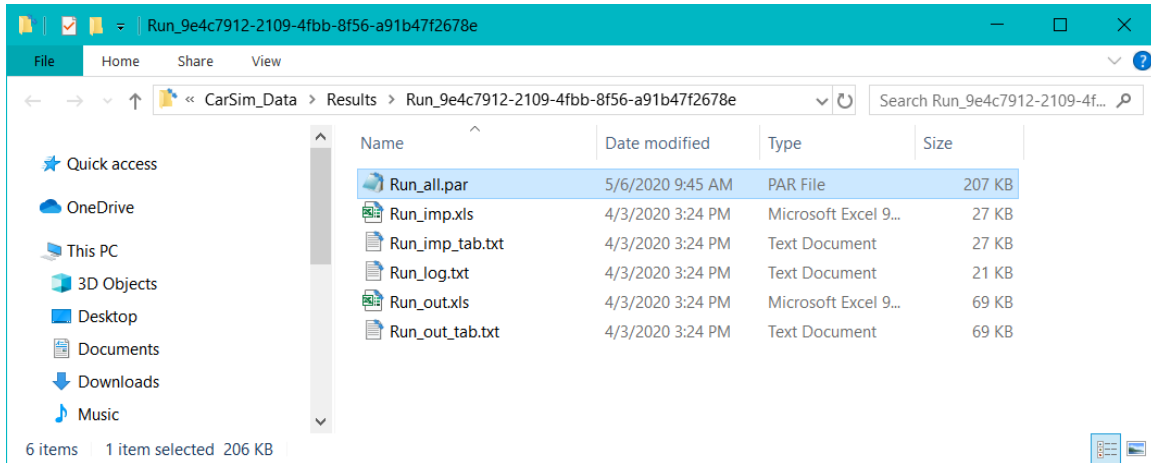

Figure 12. Files in Results Folder.
2. Copy `Run_all.par` from the results folder (Figure 12) to the executable file location.